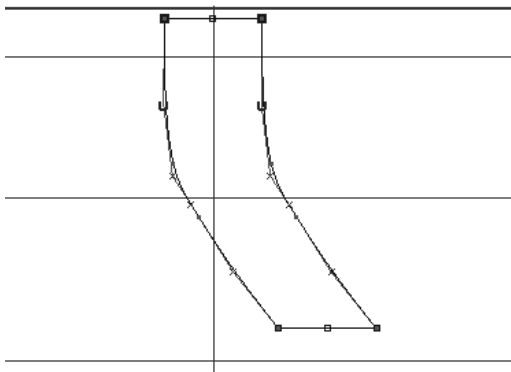

Figure 7-83 Lines for the tread profile
6. Choose the **Line** button from the **Keypoint Curve Toolbox** and create two lines, as shown in Figure 7-83.